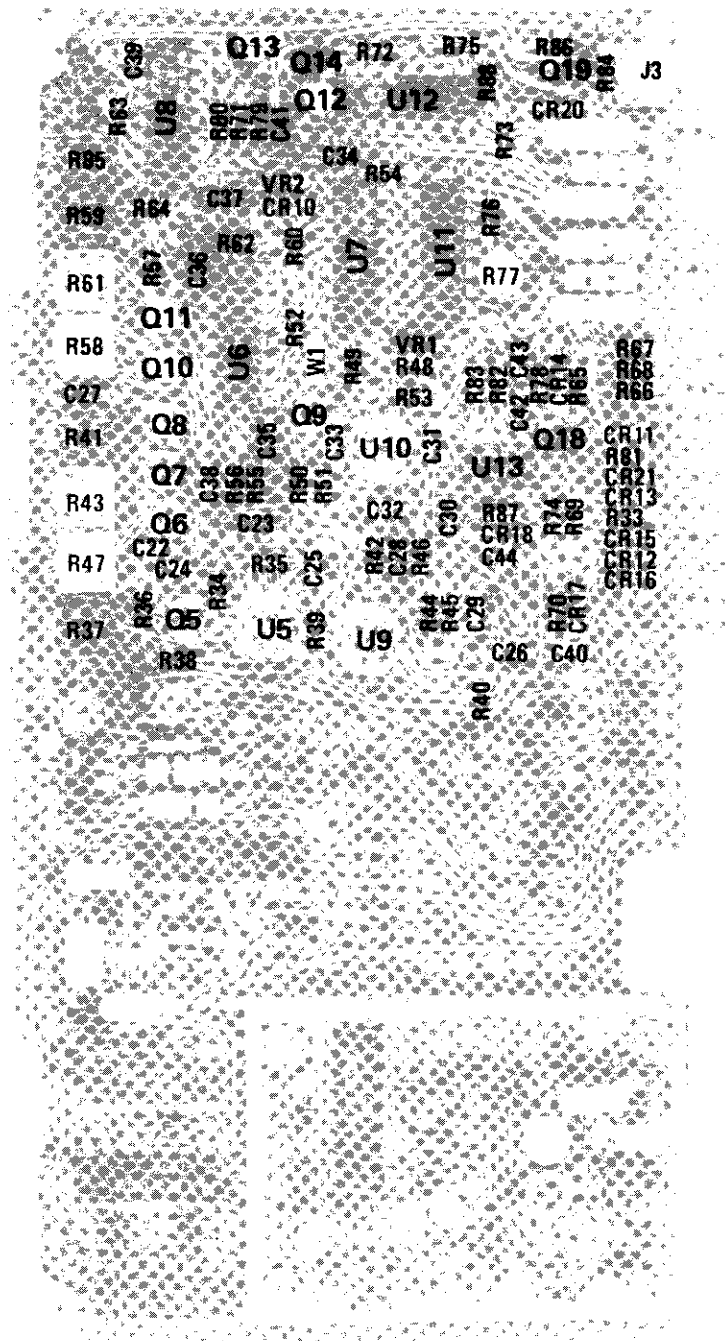

Figure 8-16. A4 Marker Assembly, Component Locations (ERRATA)
►Page 8-24, Figure 8-16, SERVICE SHEET 3:
Replace Figure 8-16 with Figure 8-16 (ERRATA) of this Manual Change Supplement.